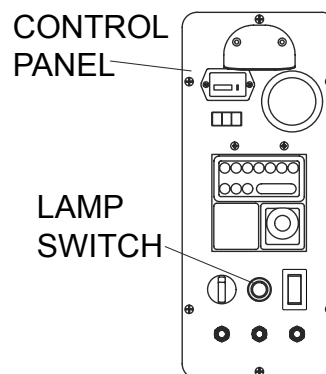

Figure 15. Turning on the Lamps
1. Press the lamp switch on the control panel to turn on all the lamps (Figure 15).